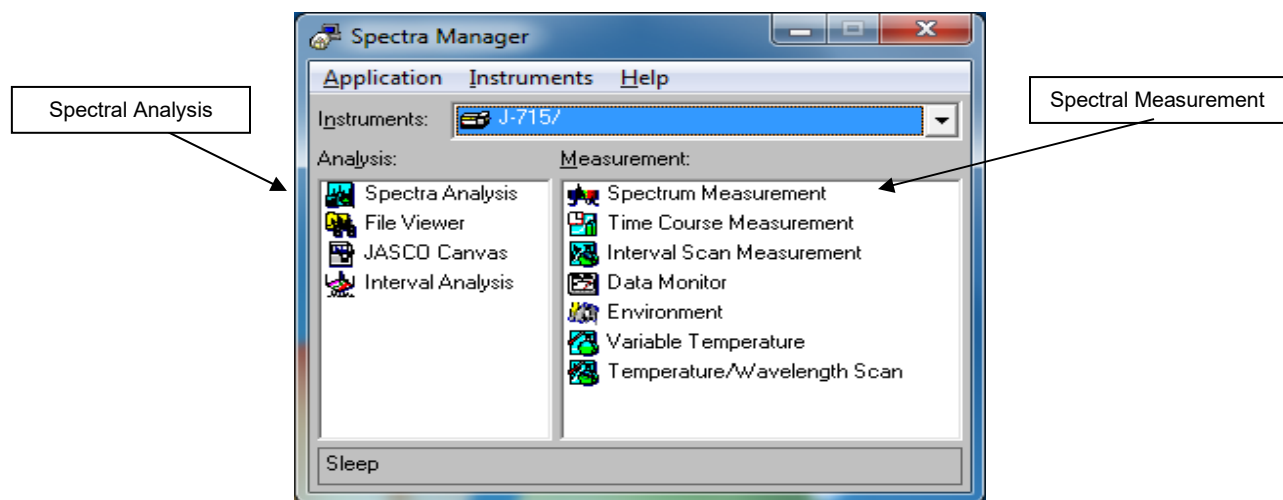

Figure 1. Spectra Manager I View.
5.1.5 Turn the computer 'ON'. Enter the User ID and password and open the 'Spectral Manager I' by double clicking on the icon. Double click on the 'Spectrum Measurement', on the right side (Figure 1). The instrument is now connected and will undergo its initialization process by checking the internal diagnostics.